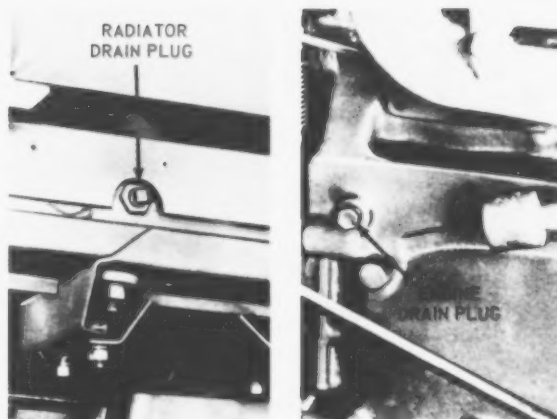

Fig. 19—Cooling System Usually Has At Least Two Drains
4. Open all drain plugs to again drain the system completely. (Most systems have at least two drains. See Fig. 19). Some also have a drain at the engine oil cooler (if equipped). Unless all drains are opened, some coolant will be left in the system.